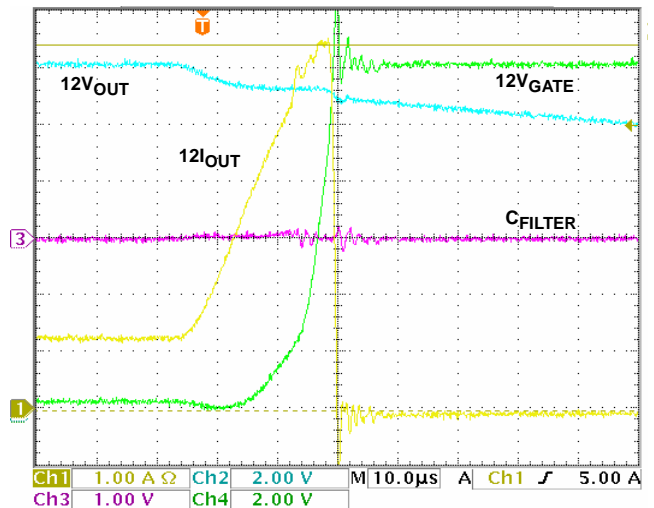

FIGURE 10. 12VMAIN WOC SHUT-DOWN
For each of the 3VMAIN and 12VMAIN supplies, the current regulated (CR) levels are set by a sub ohm value sense resistor. The value for the 12VMAIN is dependant on the size of the PCI-Express connector (X1, X4/X8 or X16) to be powered. The voltage across this resistor is compared to a 50mV internal reference providing a nominal CR protection level which would be set above the maximum specified slot limits. The 3.3VMAIN supply can use a 15mΩ sense resistor compared to a 50mV reference to provide a nominal regulated current limit of 3.3A, as this supply has a common 3A maximum across all slot sizes. For both MAIN supplies, there is a Way Overcurrent (WOC) shutdown protocol that is without a CR duration. WOC is invoked if the load current causes the RSENSE voltage to be >100mV. See Figures 10 and 11.
The ISL6112 provides a current regulation and limiting function that protects the input voltage supplies against excessive loads, including short circuits. When the current from any of a slots MAIN outputs exceeds the current limit threshold ( $I_{LIM} = 50mV/R_{SENSE}$ ) for a duration greater than  $t_{FILTER}$ , the isolation protection is tripped and both related MAIN supplies are shut off, as shown in Figures 8 and 9. Should the load current cause a MAIN outputs  $V_{SENSE}$  to exceed  $V_{THFAST}$ , the outputs are immediately shut off with no  $t_{FILTER}$  delay, as shown in Figures 10 and 11.